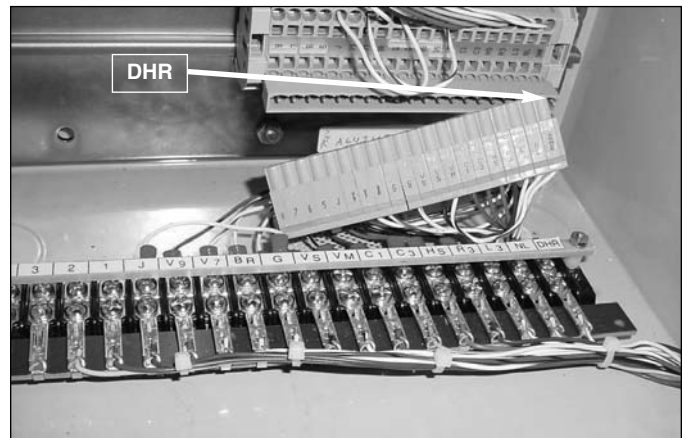

Figure 10.
19. Place the control panel's fanning strip under the 18 screws. Note: The white/orange wire on the fanning strip must line up with the white/orange DHR wire on the 18 position terminal board (See Figure 10).